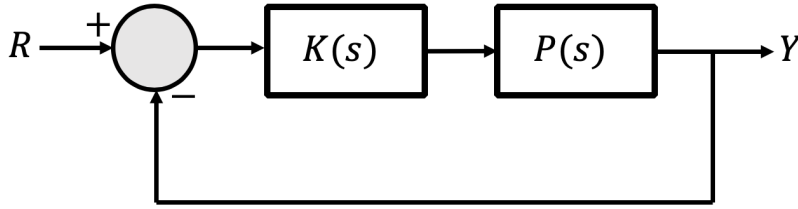

Figure 1: A diagram of a unity feedback system.
**Problem 3.** (20 points) Consider the unity feedback system in Figure 1. Let the plant's transfer function be given by: